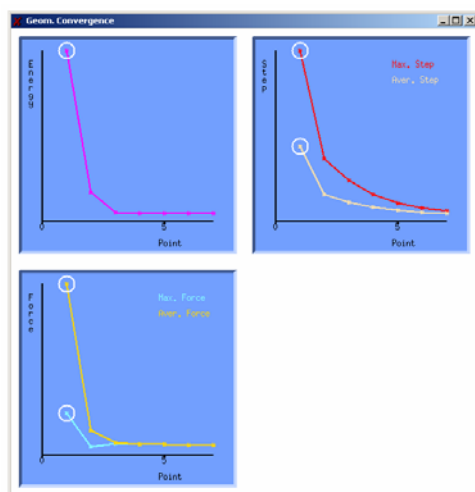

Fig. 5. MOLDEN output showing the MXS optimization steps. Upper-left panel: energy gap.
*Unfortunately it is not possible to change the sub-window description by the MOLDEN input file (see Fig. 5). Therefore the comments in the sub-windows are not always corresponding to the displayed values. In the left upper sub-window the energy difference  $E(S_2)-E(S_1)$  is plotted. In the right upper sub-windows the maximal and average step size is plotted. In the left lower sub-window the total energies of the states  $S_2$  and  $S_1$  are plotted.*